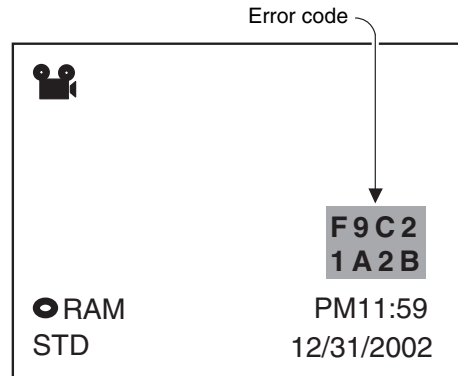

Fig. 3-2a
- 3) Press the SELECT button and release it, and then, within 0.5 second, hold down the following 2 buttons for at least 3 seconds to display the error code (Fig. 3-2a):